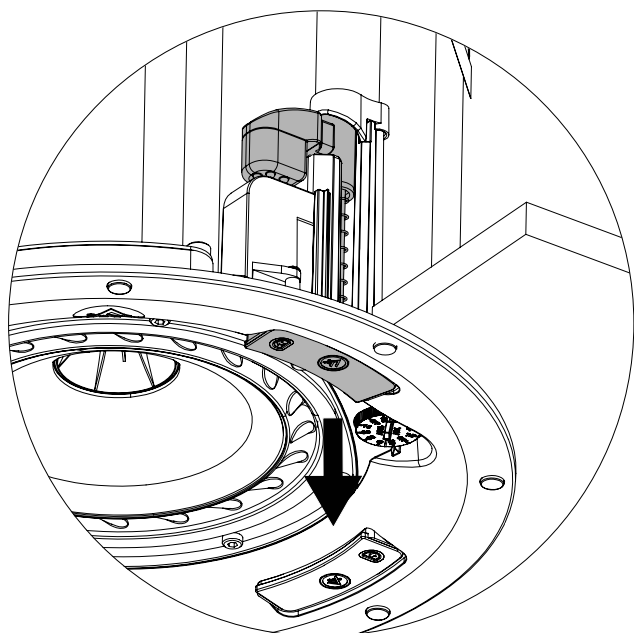

Figure 11
- Disengage first T-handle from default installed position (Figure 11).